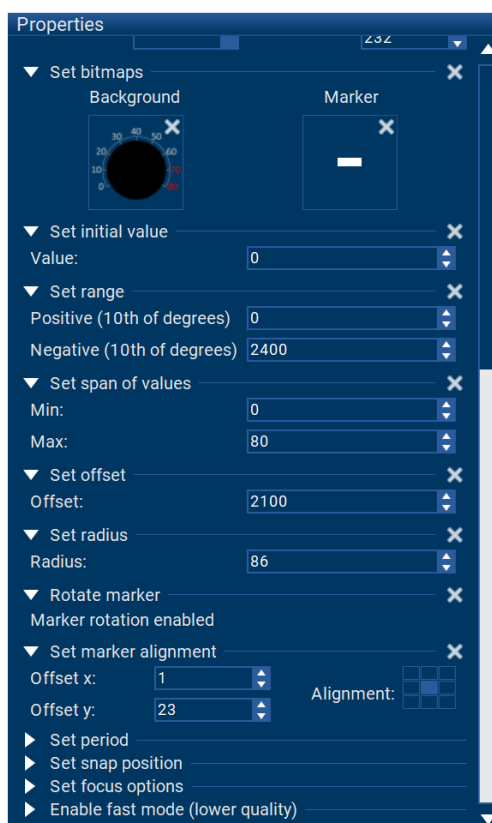

Figure 1-15 Rotary - Properties
- 4) The system-defined initial angle of 0° is positioned as shown in Figure 1-14. To align with the rotation angle and values of image , refer to Table 1-3 for instructions on setting the initial value, range, span of values, and offset. The actual configuration items are shown in Figure 1-15.
- 5) To align the marker's rotation position, refer to Table 1-4 for instructions on setting the marker alignment and radius. The actual configuration items are shown in Figure 1-15.